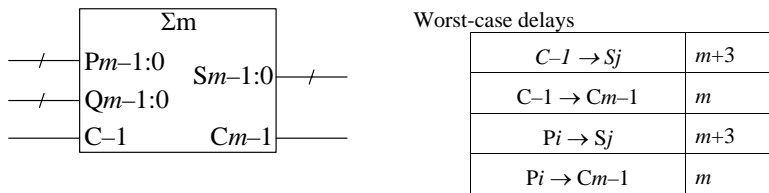
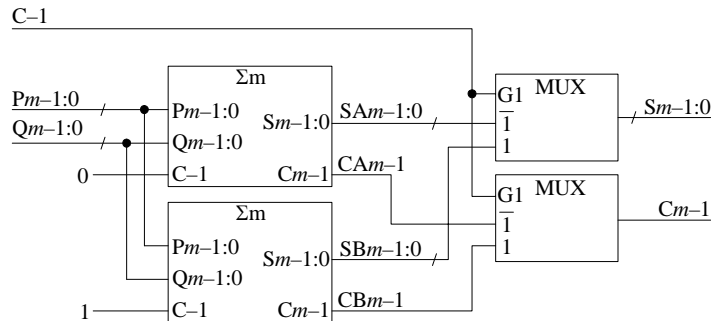

Figure 3
Figure 4
2. Figure 3 shows the symbol and worst case propagation delays (in units of 1 gate delay) for an m -bit full adder. P_i , Q_i and S_j denote any of the P, Q or S bits respectively.
The circuit of Figure 4 uses two full adders together with two multiplexers. The C-1 inputs of the two full adders are connected to logic 0 and logic 1 levels respectively. In the question below, the phrases *simple adder block* and *complex adder block* refers to the circuits of Figure 3 and Figure 4 respectively.